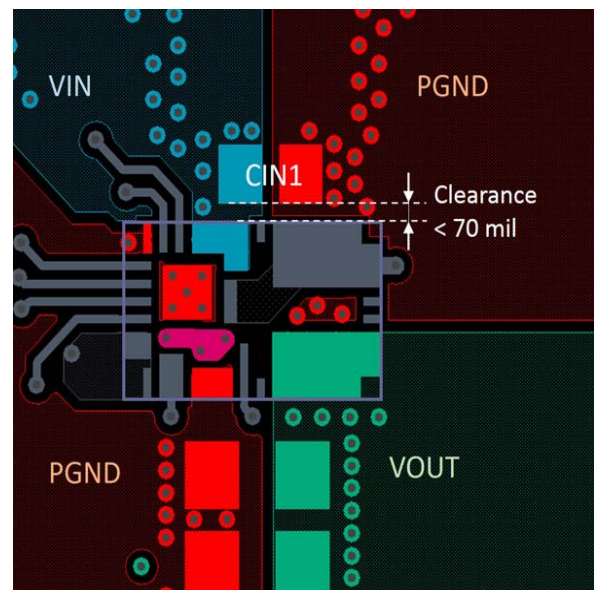
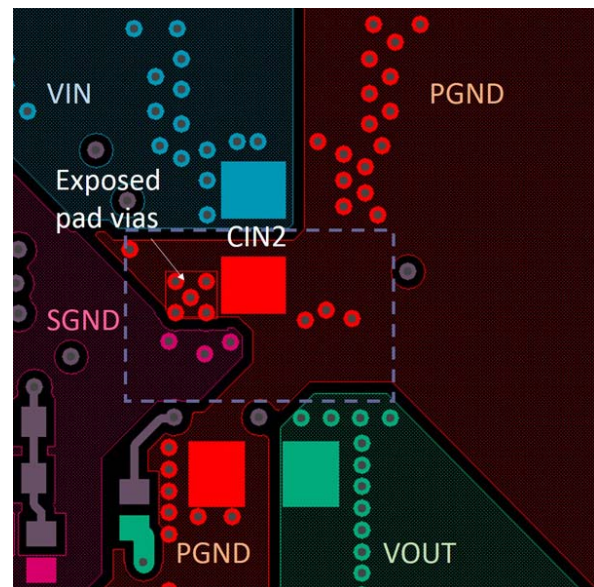

FIGURE 39. LAYOUT EXAMPLE - TOP LAYER
FIGURE 40. LAYOUT EXAMPLE - BOTTOM LAYER
A few layout considerations need to be taken into account in order to achieve proper operation of ISL8202M. An optimized layout design also allows the module to have lower power loss and good thermal performance. An illustrative layout example is shown in Figures 39 and 40. Key points are listed in the following:
- Place the input ceramic capacitors as close as possible to the module input. These ceramic capacitors are used to minimize the high frequency noise by reducing parasitic inductance of the switching loop. Optimized placement of these capacitors will not only lead to less switch node ringing but also minimize the noise seen by the module to insure proper operation. It is recommended to use X5R or X7R ceramic capacitors with minimum total capacitance of 44 μ F at module input. It is a **MUST** that one of the input capacitors (C_{IN1}) with no less than 3.3 μ F capacitance should be placed on the same layer (assuming top layer) as module and within less than 70 mil clearance to module input (refer to Figure 39). For capacitors on the bottom layer, it is recommended to have one (C_{IN2}) placed from VIN to PGND copper close to exposed pad (Pad 20) vias (as shown in the layout example in Figure 40).
- Use a separate SGND ground copper area for components that are connected to signal ground. Connect SGND copper to module Pad 22 through multiple vias (refer to Figure 40). Because Pad 22 is connected to module internal PGND at a single location, the SGND copper area and PGND plane on the PCB can be left separated.